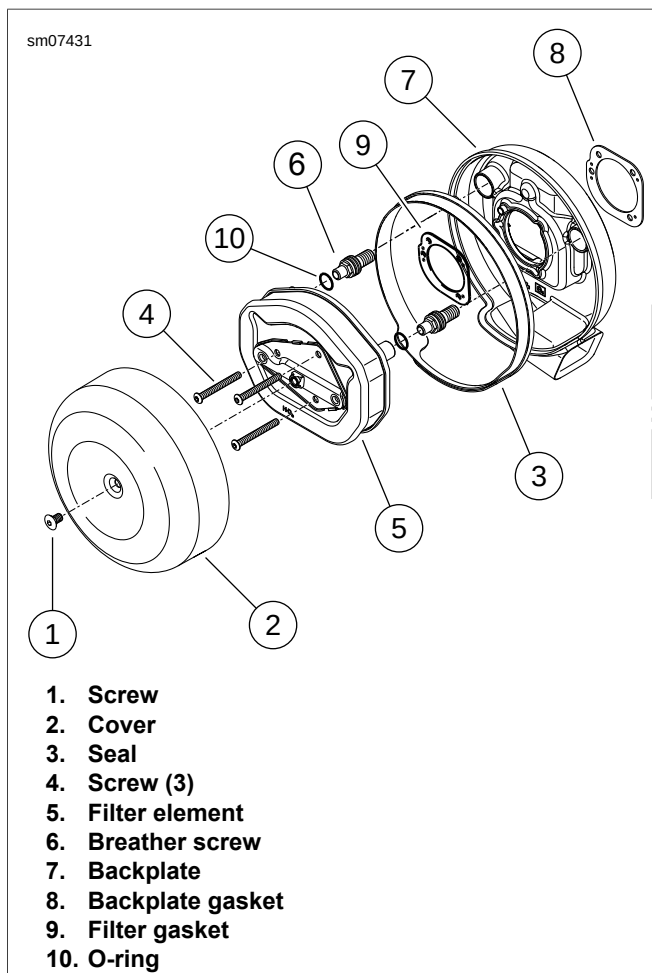

Figure 4-2. Air Cleaner Assembly: XL 1200V
1. See Figure 4-2. Remove the cover screw (1).
2. Remove the cover (2) and the seal (3).
3. Remove the three screws (4), the air filter element (5) and gasket (9).
4. Remove the O-rings (10). Discard the O-rings.
5. Remove the two breather screws (6).
6. Remove the backplate (7) and gasket (8).
1. See Figure 4-2. Install the gasket (8) and backplate (7).
2. Apply LOCTITE 243 MEDIUM STRENGTH THREAD-LOCKER AND SEALANT (blue) to existing screws or use **new** breather screws (6). Install the breather screws. Tighten to 84-120 **in-lbs** (9.5-13.6 Nm).
3. Apply engine oil to **new** O-rings (10). Install the O-rings on the breather tubes.
4. Install the filter gasket (9).
5. Install the air filter element (5) and screws (4). Tighten to 40-60 **in-lbs** (4.5-6.8 Nm).
6. Fit the cover (2) to the seal (3).
7. Install the cover and screw (1). Tighten to 36-60 **in-lbs** (4.1-6.8 Nm).